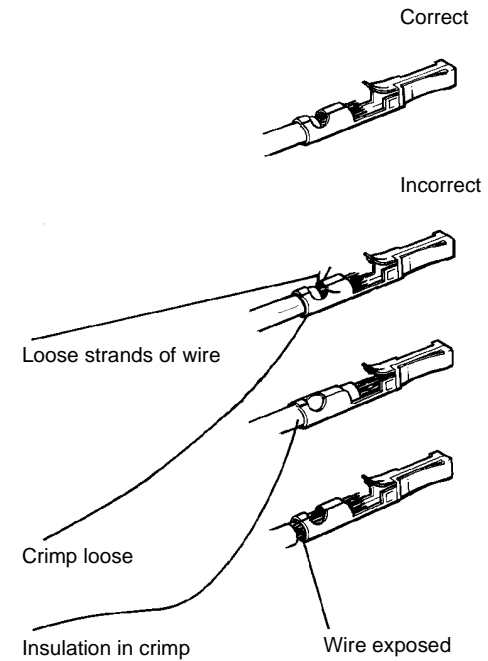

Figure 5 Inspecting the finished crimp.
5. **Figure 5.** Check that the crimp is correctly made.